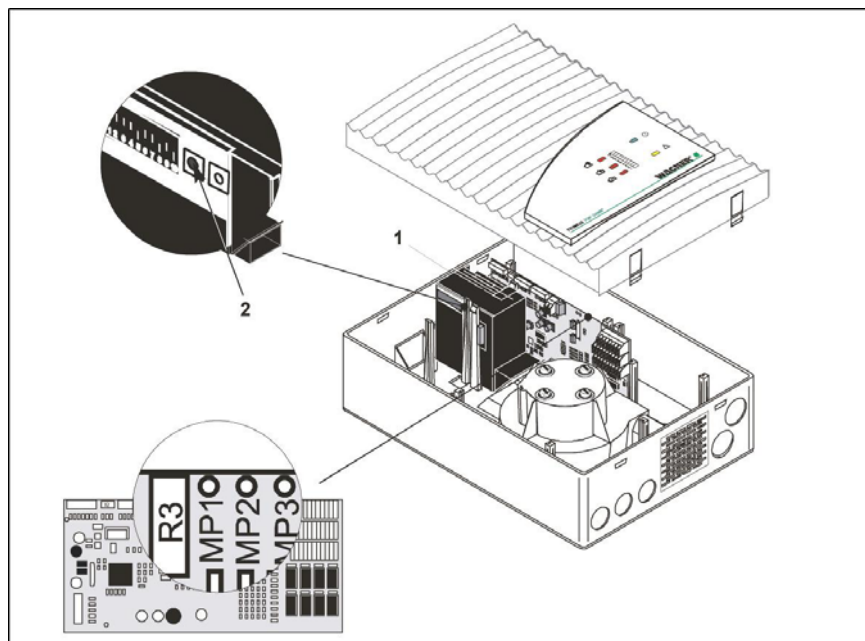

Fig. 7.1: Air pressure-independent calibration of the airflow sensor
4. Press the Flow-Init button S2 on the detector module of the TITANUS TOP · SENS® (see Fig. 7.1).